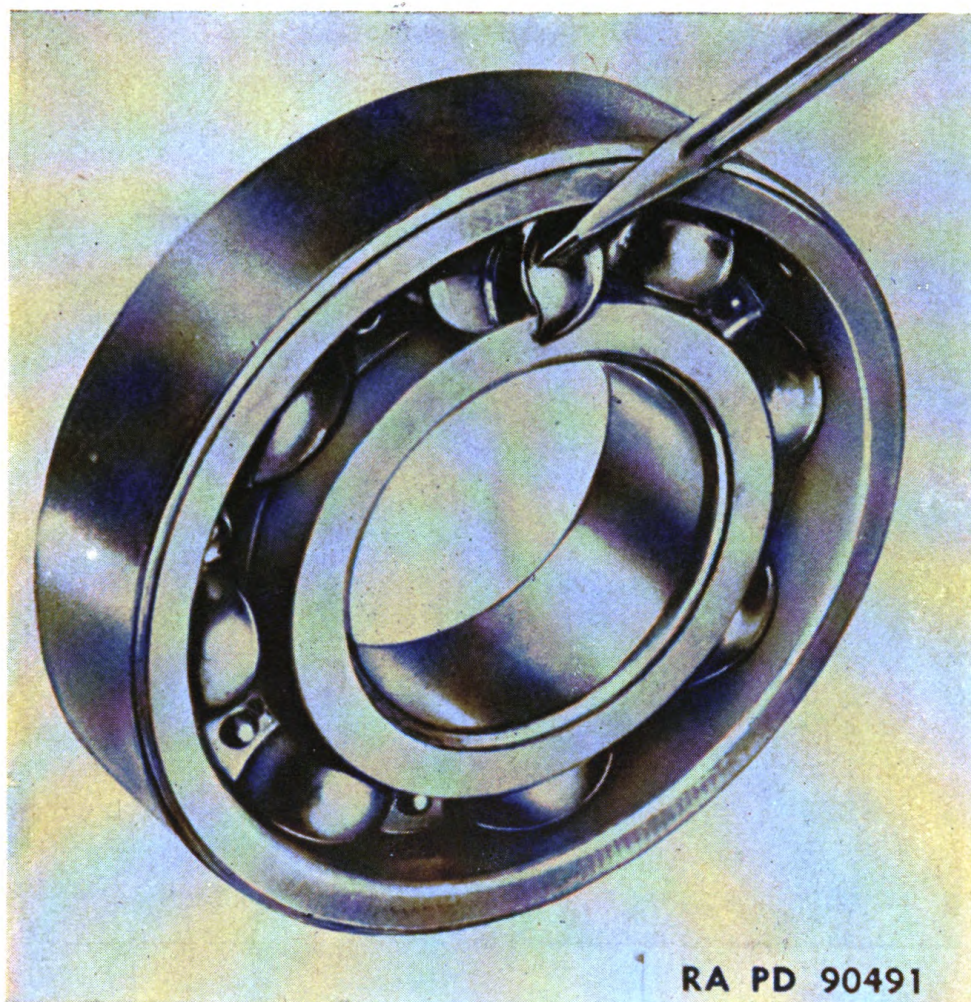

Figure 37. Broken separator often due to presence of dirt or metal chips.
(3) Cracked or broken separators, balls, or rollers. (See fig. 37.)